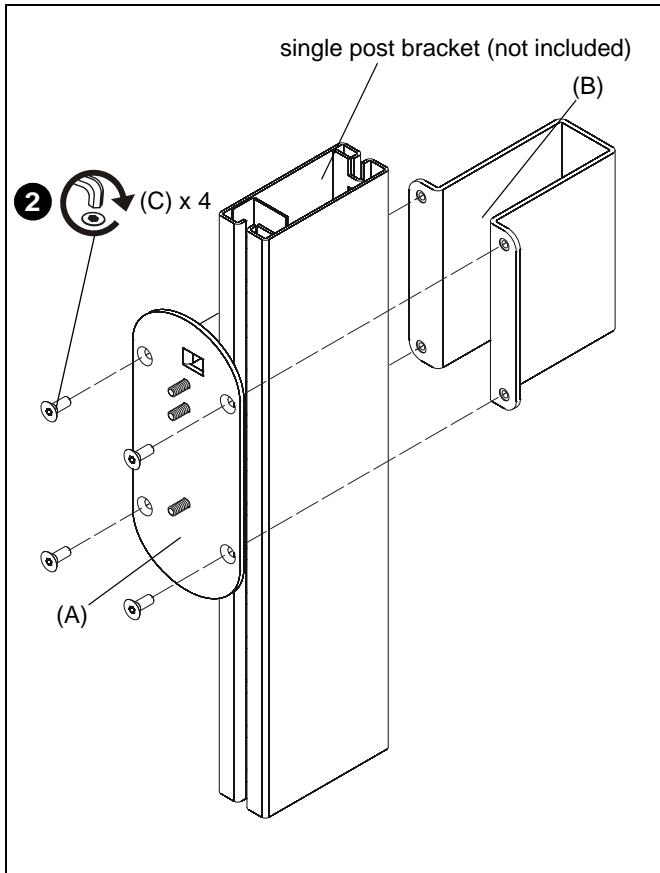

Figure 1
1. Position clamp bracket (B) around single post bracket (not included) at desired mounting height. (See Figure 1)
2. Install four #10-24 x 1/2" flat head cap screws (C) through holes in main plate (A) and four holes in clamp bracket (B). (See Figure 1)